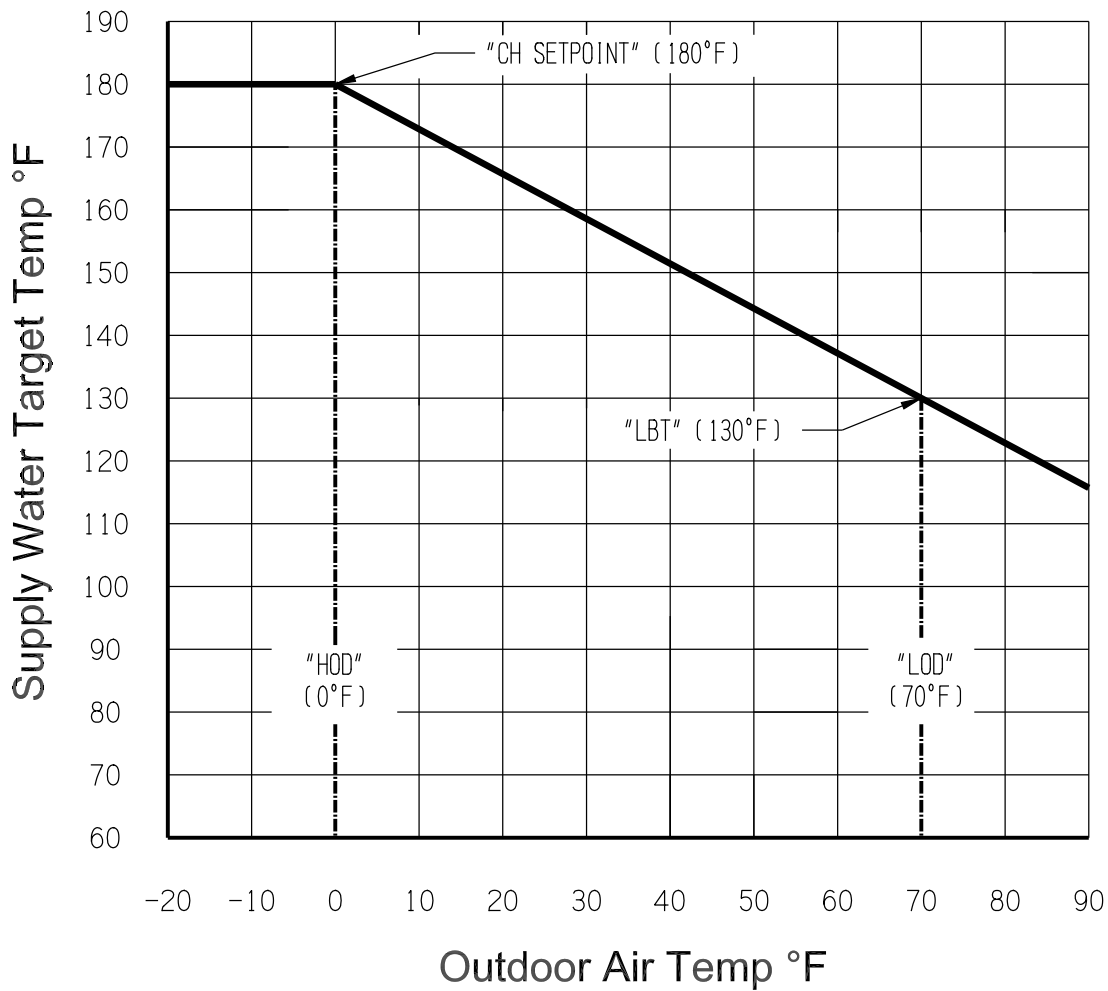

FIGURE 12.3: OUTDOOR RESET CURVE (DEFAULT SETTINGS SHOWN)
**CH Set point (S1)** - Target water temperature when the boiler is responding to a call for space heat. If outdoor reset is enabled, this is the maximum target water temperature, regardless of outdoor temperature. See the Odr section below, as well as Figure 12.3, for more information on outdoor reset.
When Odr is on, and when the boiler is responding to a call for space heat, the target water temperature will adjust downward (within certain limits) as the outdoor temperature increases. The graph in Figure 12.3 shows how the target water temperature changes with outdoor temperature. This control strategy increases system efficiency by keeping the water temperature closer to the minimum value needed to heat the building based on the current outdoor air temperature.
Figure 12.3 shows the default reset curve; the ends of this curve can be changed by adjusting the CH Set point, LBT (“Low Boiler Temp”), HOD (“High Outdoor Temp”), and LOD (“Low Outdoor Temp”). The ideal values for these four settings depend upon the type of radiation in the building. The default values will generally provide adequate comfort regardless of the type of radiation used.
LBT (S3) – Low Boiler Temperature. See Figure 12.3 and the Odr discussion above.
HOD (S4) – High outdoor temperature. See Figure 12.3 and the Odr discussion above.
LOD (S5) – Low outdoor temperature. See Figure 12.3 and the Odr discussion above.